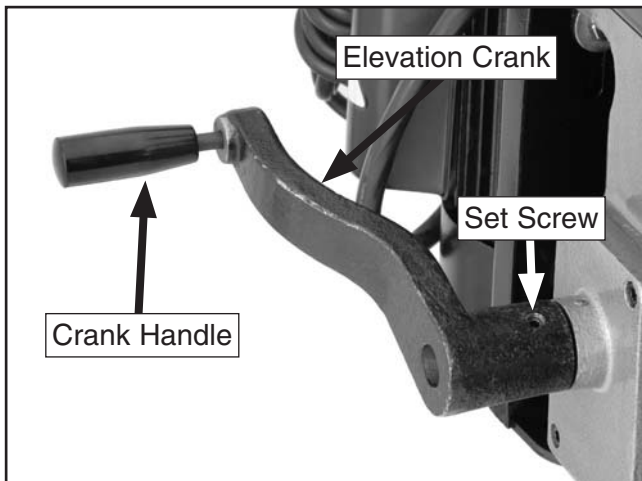

Figure 9. Crank handle installed.
2. Slide the head and knee elevation cranks onto the shafts, then tighten the set screws (see **Figure 9**).